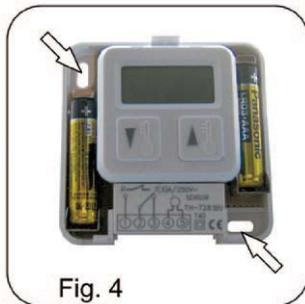

Fig. 4
- › Route the wires through the cutout in the base and mount the thermostat to the wall with two screws (see figure 4).